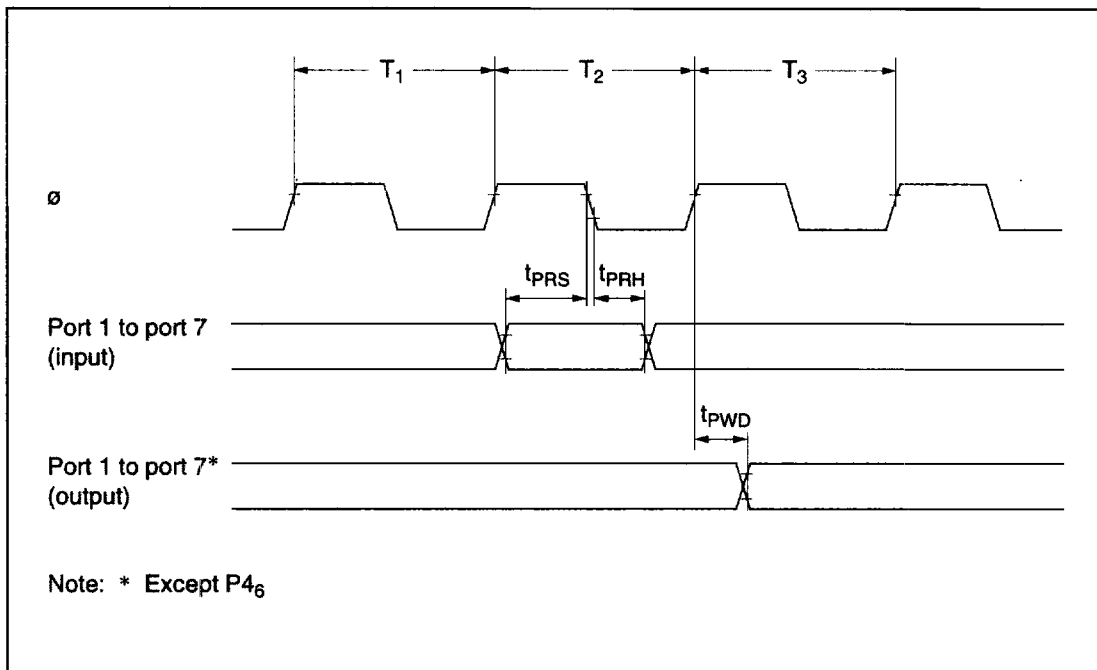

Figure 19-18 I/O Port Input/Output Timing
19.3.7 I/O Port Timing	Figure 19-18